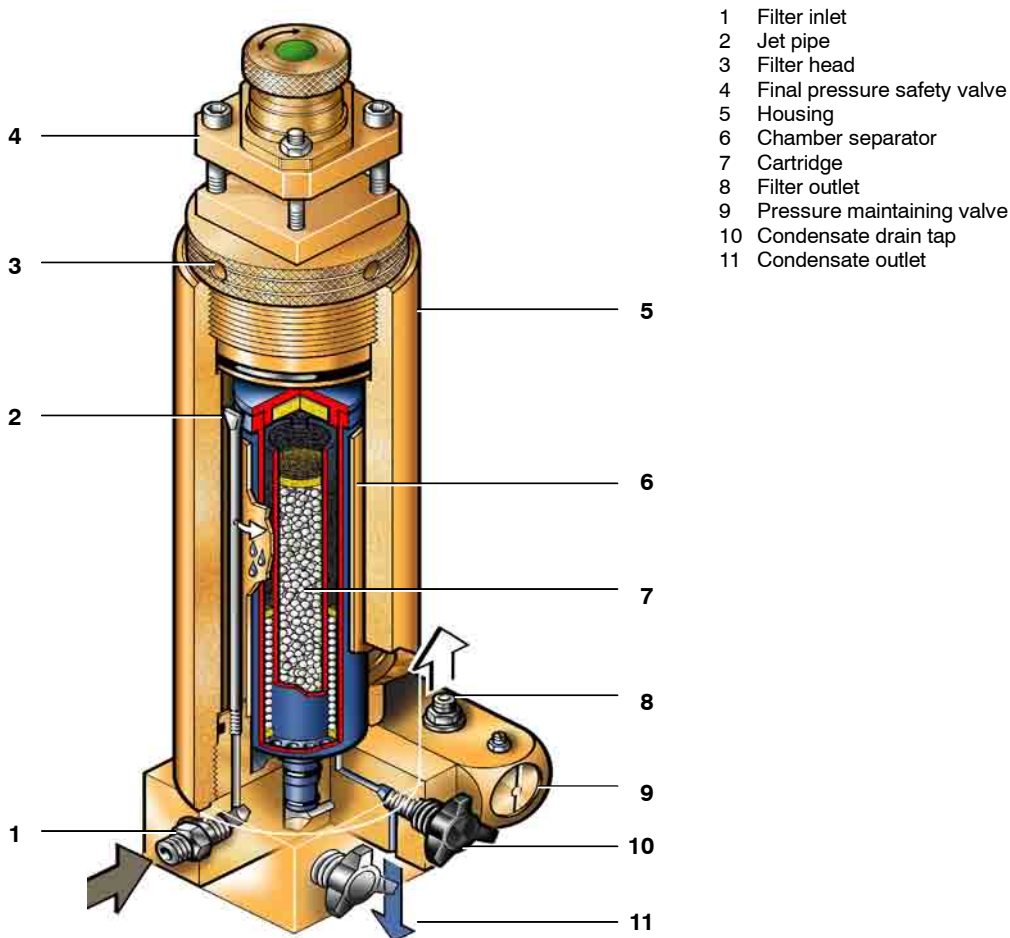

Fig. 26 Filter system P21
The air leaving the final stage is cooled in the after-cooler to approx. 10 - 15 °C (18 - 27 °F) above ambient temperature and then enters filter system P21 with **TRIPLEX** longlife cartridge (Fig. 26).
Drain condensate from separator and cartridge chamber regularly by slowly opening drain taps (10, Fig. 26)
- Remove filter head (3, Fig. 26).